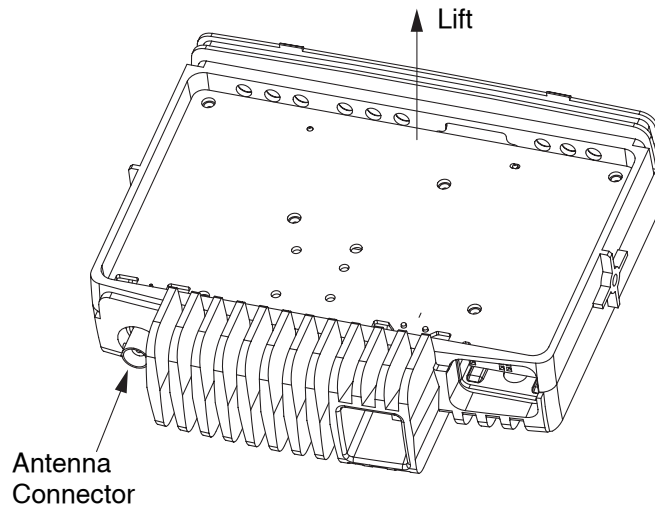

Figure 2-7: Transceiver Board Removal
3. Slowly lift the transceiver board on the edge at the front of the radio (the edge that mates with the control head) and pull gently toward the front of the radio as shown in Figure 2-7. Take care to slide the antenna connector and power connector out of the chassis towards the front.